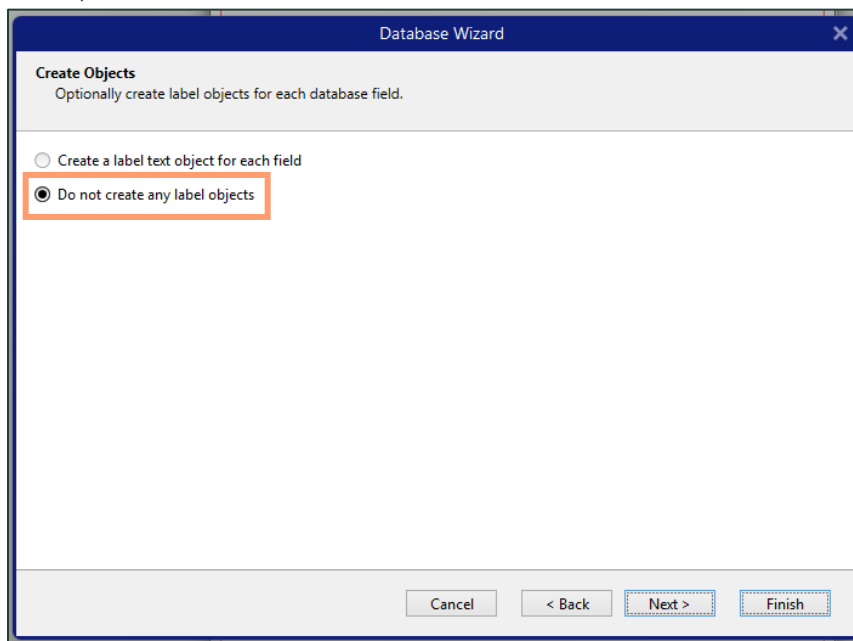

Figure 21: New Label Set Up Wizard with printer selected
15. In the Create Objects field, do **not** create any label objects – see **figure 21**. Then, select Next.